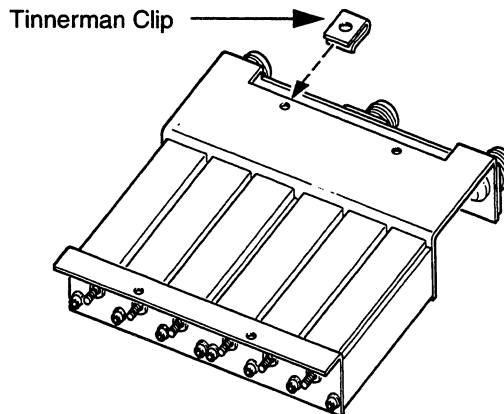

Figure 2-7. Duplexer, Bottom View
1. Examine the duplexer that was ordered for the GR400 X-Pand repeater model being assembled. If four (4) of the mounting holes contain Pennuts (threaded inserts), proceed to Step 3. If no Pennuts are present, locate the four (4) Tinnerman clips in kit HKN9025 and continue with Step 2.
2. Using a pair of needle nose pliers, place Tinnerman clips over four of the mounting holes of the duplexer (refer to Figure 2-7).